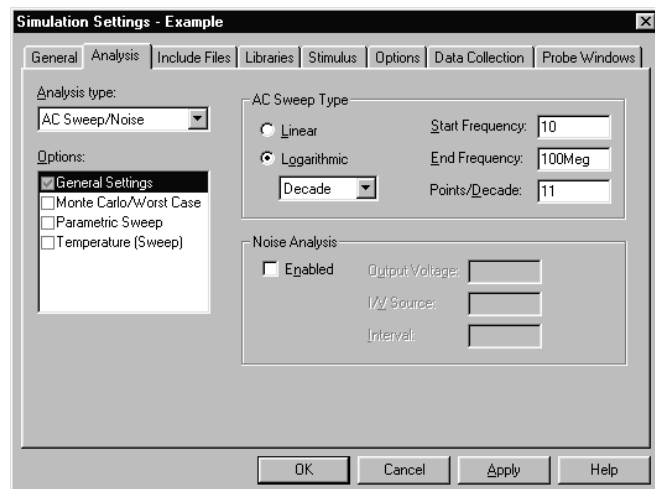

Figure 19 AC sweep and noise analysis simulation settings.
- 4 From the Analysis type list, select AC Sweep / Noise and enter the settings shown in Figure 19.